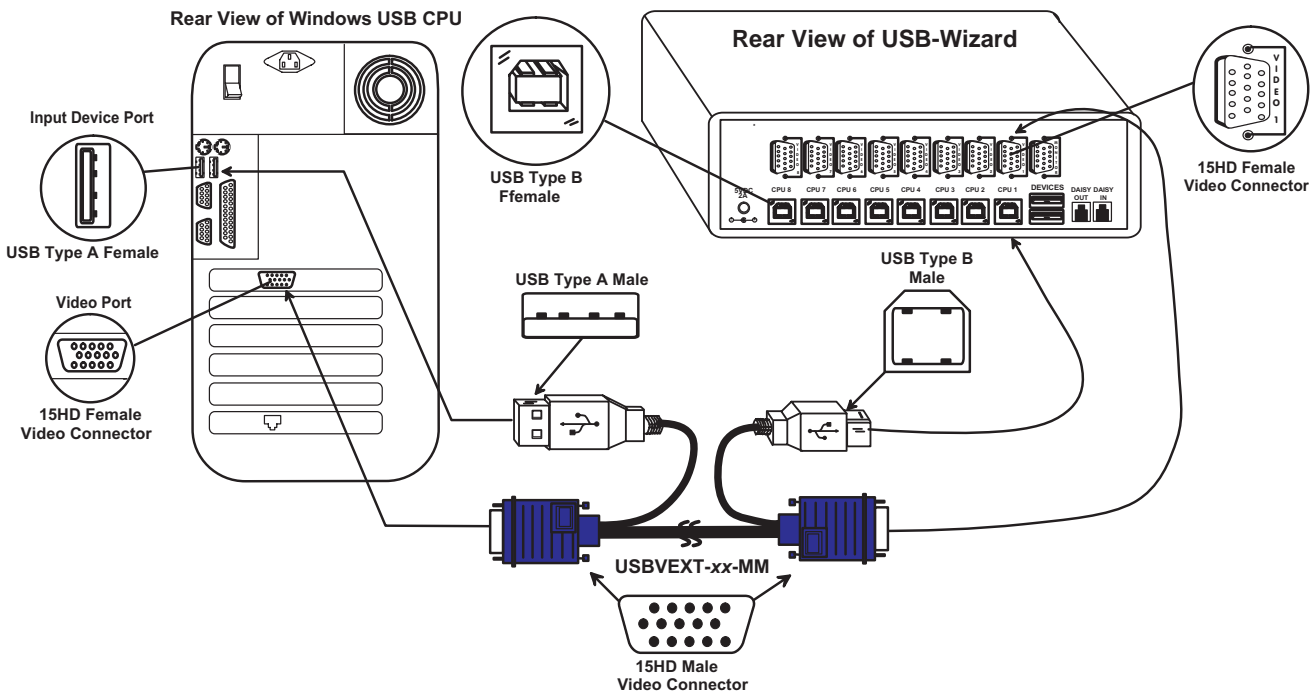

Figure 4- Connect each CPU
- Connect each CPU to the USB Wizard using a USBVEXT-xx-MM video and input device interface cable – REQUIRED (not supplied). (See Fig. 4 below.)